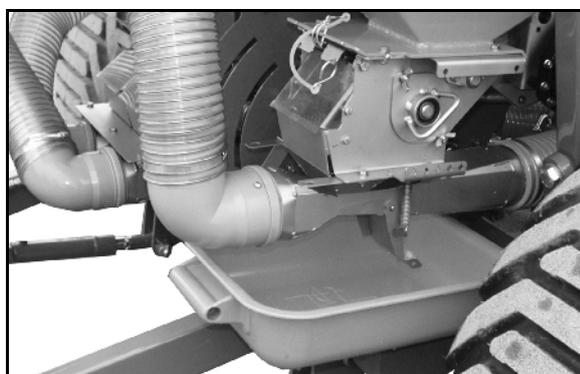

Fig. 95
4. Calibrate the fertiliser: Place the calibration trough under the fertiliser dosing unit (Fig. 95).